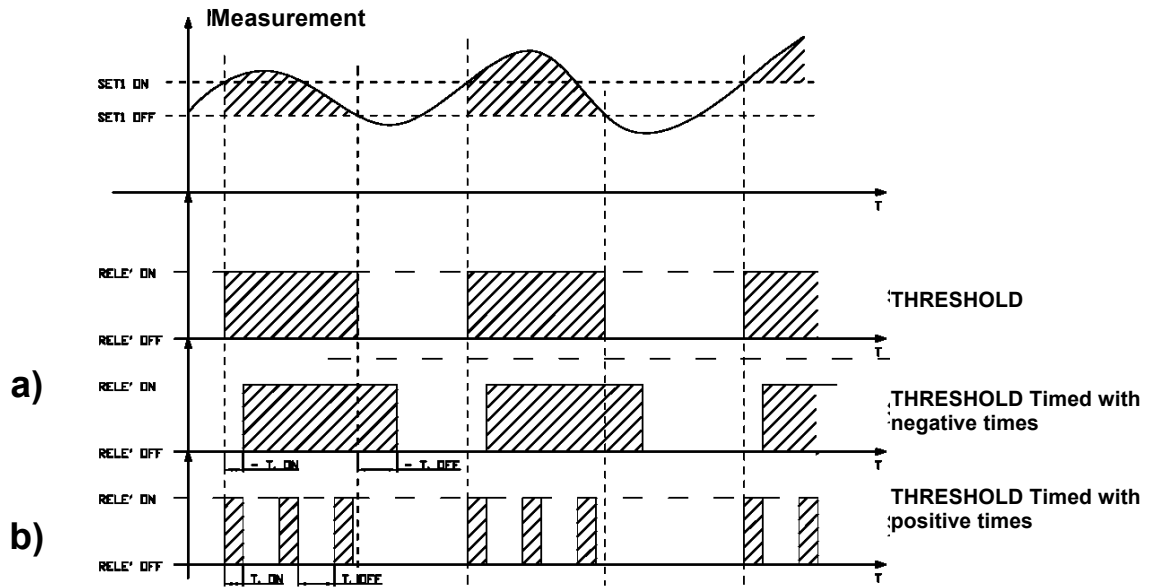

Figure 13 – Relay 1 functionality
The ON and OFF times can be programmed with either negative or positive values. (fig. 13)
*Ex. ON Time: -5sec , OFF Time -10sec.* (fig. 13.a)
*Ex. ON Time: 5sec , OFF Time 10sec.* (fig. 13.b)
If the Set Point is set as PID-PWM, Relay 1 can be used to operate a pump with ON/OFF commands as if it were to be in proportional adjustment. This function requires the time (in seconds) within which the PWM adjustment will be subsequently calculated to be programmed. Maximum programmable time: 999 sec. with increments of 1 second. In order to prevent abrupt measurement variations, it is recommended to start with shorter times and to subsequently increase them. For the Relay's functionality with the PID-PWM function, see fig. 13.b